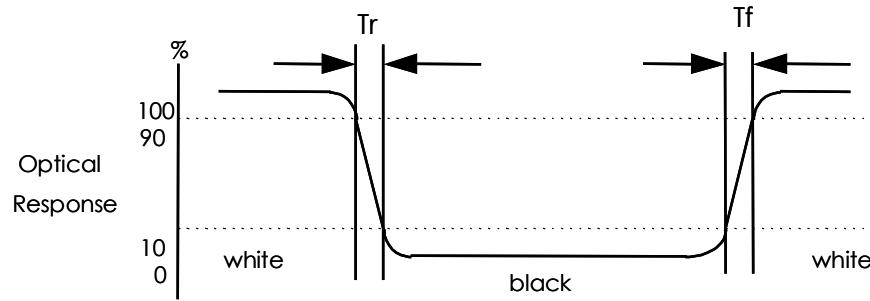

FIG.2. Measuring method for Contrast ratio, surface luminance, Luminance uniformity, CIE (x, y) chromaticity
Note 1. Contrast Ratio(CR) is defined mathematically as For more information see FIG 2.
Note 2. Surface luminance is the LCD surface from the surface with all pixels displaying white. For more information see FIG 2.
Note 3. The uniformity in surface luminance , δ WHITE is determined by measuring luminance at each test position 1 through 5, and then dividing the maximum luminance of 5 points luminance by minimum luminance of 5 points luminance. For more information see FIG 2.